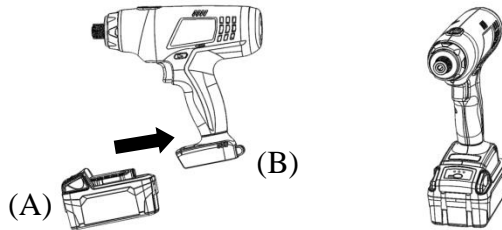

Fig. 1
**TO INSTALL BATTERY PACK:** Push battery pack (A) onto tool (B) until it locks in place (see Fig. 1).
**TO REMOVE BATTERY PACK:** Depress the two side release buttons on battery pack and pull battery pack (A) off of tool (B) (see Fig.1).